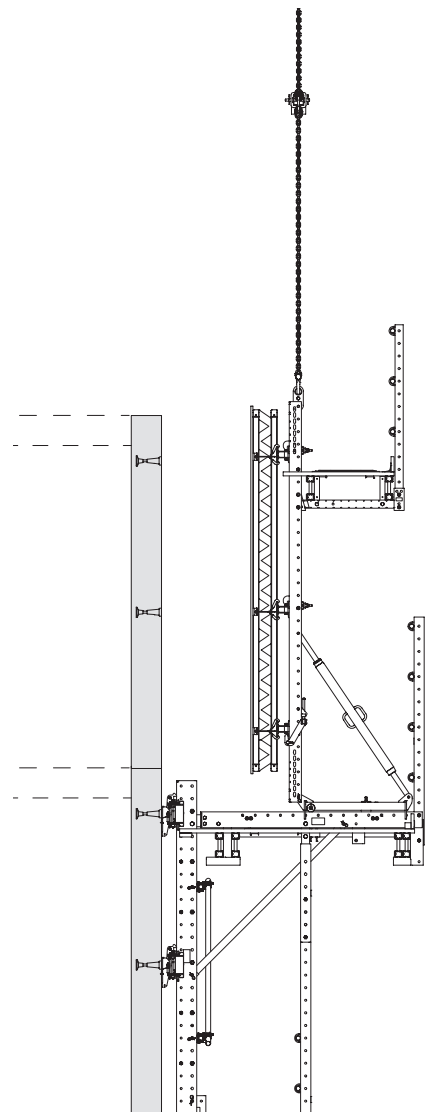

Fig. B6.03
- when attached to climbing rail with 2 x Lifting Eye BR-2 2.5 t (9) max. 5 t,
- when attached 2 x directly to the spacer in the Climbing Rail RCS max. 9 t. (Fig. B6.03)